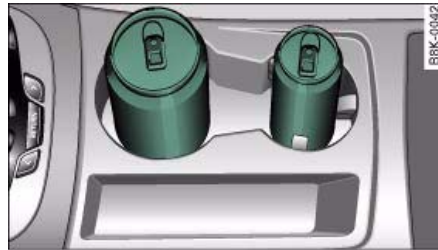

Fig. 93 Centre console:
- Two drinks can be placed in this cup holder ⇒ fig. 93.